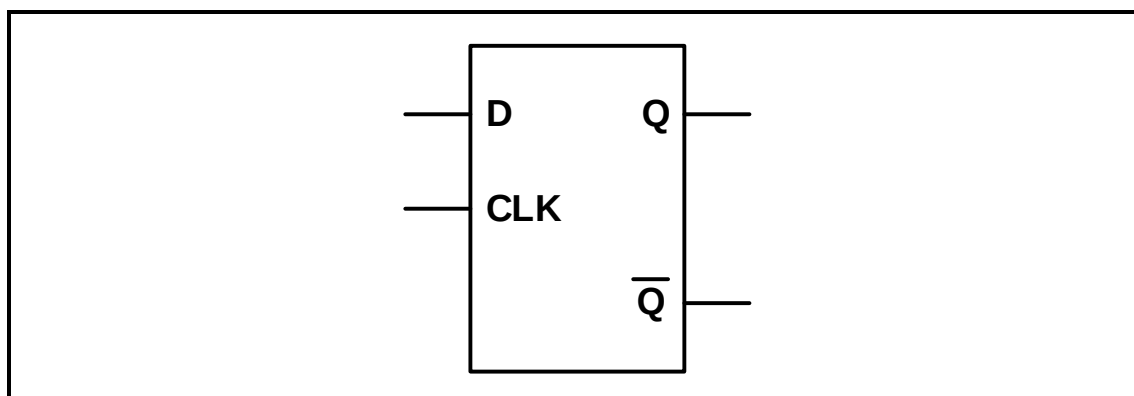

FIGURE 5.4: D-TYPE FLIP-FLOP
5.4 Refer to FIGURE 5.4 below of a clocked D-type flip-flop and answer the questions that follow.